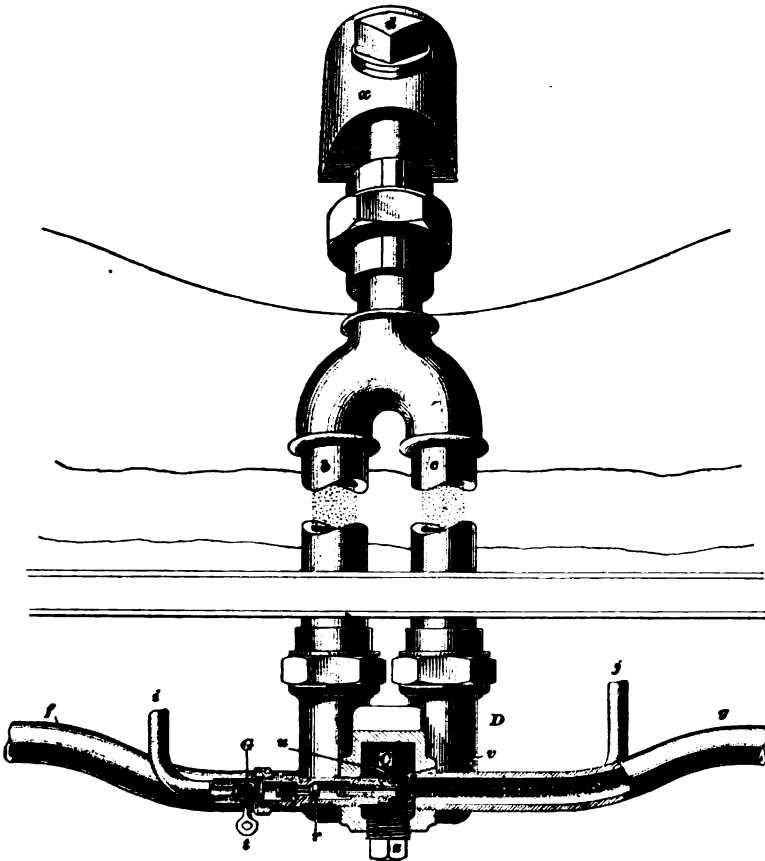

FIG. 31.
**72. Operation of Sander.**—An assembled view of the sanding device is shown in Fig. 31, in which all the parts have the same letters as in the previous figures. In this view the
The inch plug *z* is for the purpose of removing small stones, etc., that may get into the trap and interfere with the operation of the sander. Before this is removed, however, the hand-lever valve in the box must be closed; or, if not provided, the plug *d*, Fig. 31, in the sand-box lug, should be removed and a piece of waste inserted to stop the flow of sand to the trap *D* while it is being cleaned.
**74. Troubles.**—Sometimes, when the sand has not been properly screened, small stones accumulate in chamber *C* of the trap *D*, and restrict or entirely prevent the flow of sand into the discharge pipe; or, the sand in the trap may be so wet as not to flow. In either case, if the sand outlet from the sand box can be closed by the valve in the box, do so; if it cannot, remove the plug *d*, Fig. 31, and insert sufficient waste to stop the flow of sand from the box; then remove the plug *z* and clean out the trap.